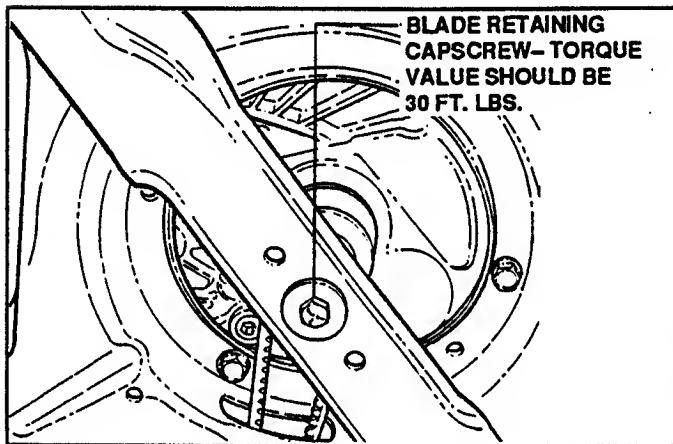

FIGURE 3.4
2. Tilt mower up on its rear wheels for access to the blade cap screw. Do not tilt mower with spark plug or carburetor down. See Figure 3.4.
3. Check torque value of blade retaining cap screw. Recommended torque should be 25 to 35 ft. lbs. See Figure 3.4.